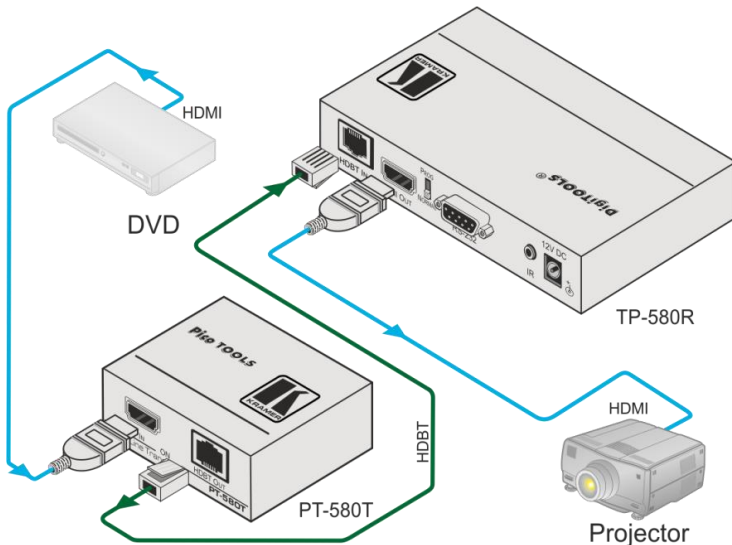

Figure 8: Connecting the PT-580T/TP-580R Transmitter/Receiver Pair
To connect the **PT-580T** to a receiver (for example, the **TP-580R**), as illustrated in the example in Figure 8, do the following:
4. Connect the 5V DC power adapter to the power socket on the **PT-580T** and the 12V DC power adapter to the power socket on the **TP-580R** and connect the adapter to the mains electricity (not shown in Figure 8).